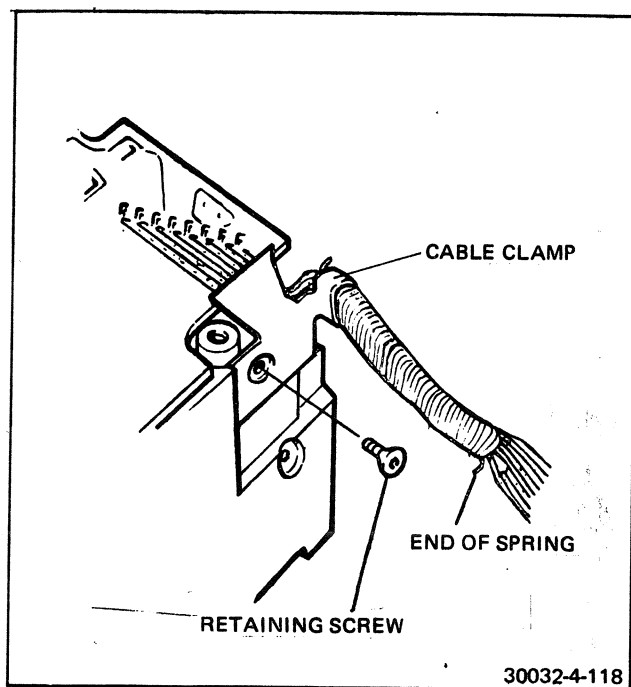

FIGURE 4-118 MULTI-WIRE CABLE CLAMP
- j. Install the cable clamp and install and tighten the screw. See Figure 4-118.